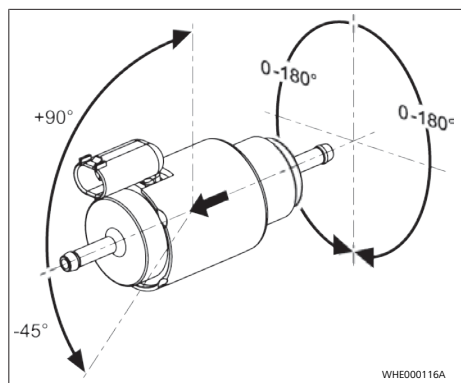

Fig. 13 Permissible installation positions of the fuel pump
- The installation position is restricted (maximum inclination angle and axial installation position of fuel pump) as illustrated in Fig. 13 to ensure effective automatic bleeding.